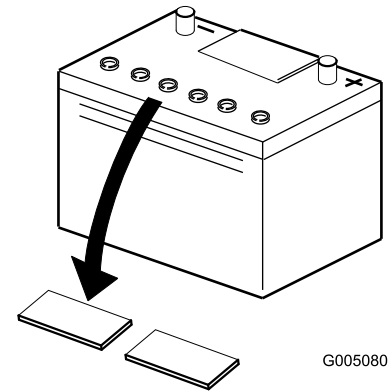

Figure 7
2. Clean the top of the battery and remove the vent caps (Figure 7).